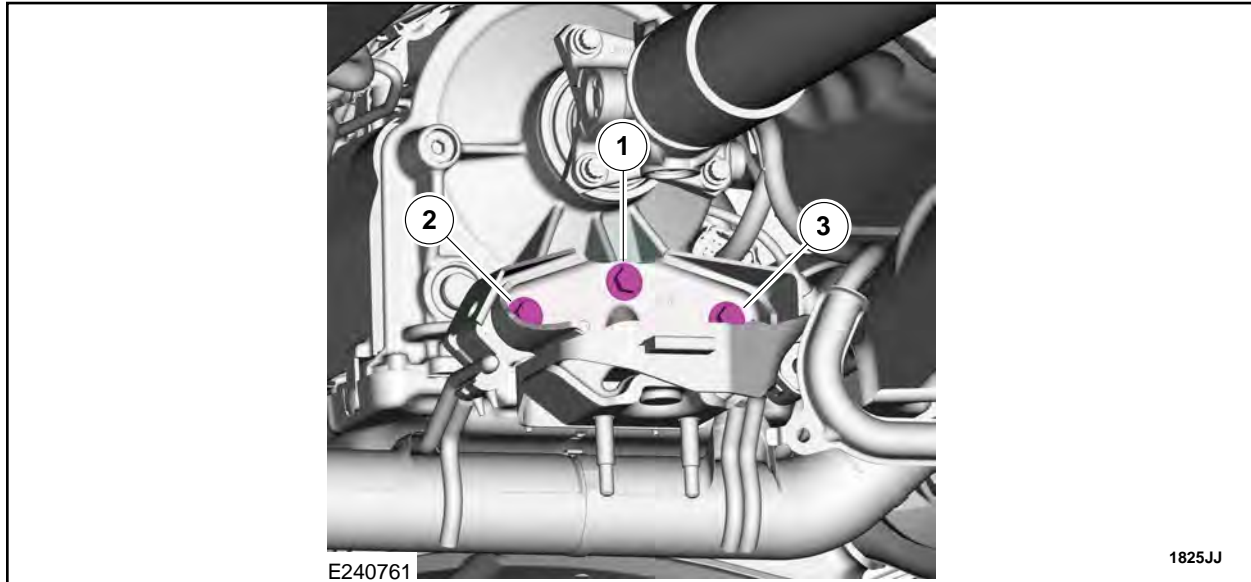

FIGURE 34
54. Install the transmission support insulator bolts in the sequence shown. See Figure 34.